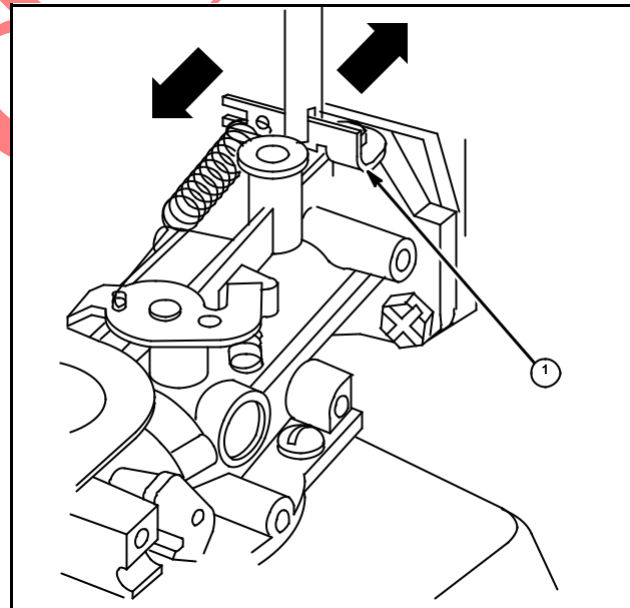

Fig. 94
4. Release throttle and bend governed idle bracket (1) to obtain 1750 RPM, Fig. 94.